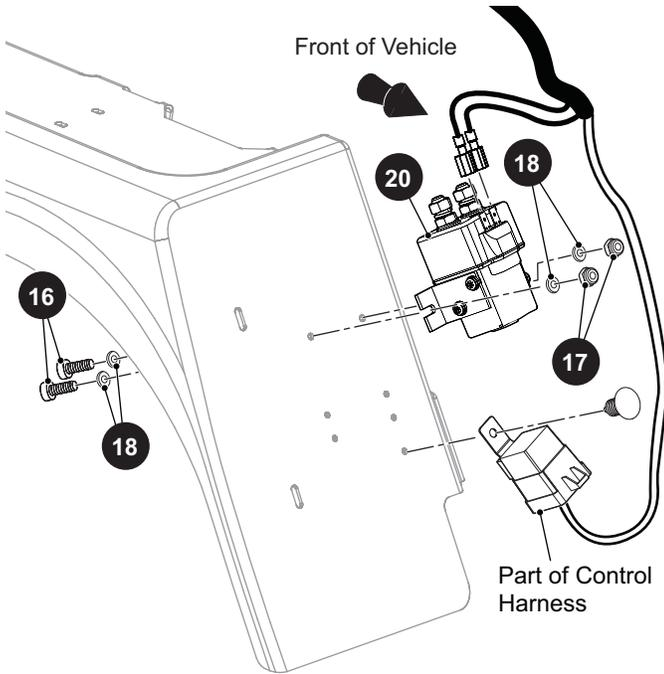

Fig. 12 Solenoid Replacement
1. Disconnect the wires from solenoid (20).
- Remove the two screws (16), washers (18) and nuts (17) to remove the solenoid (20) from the rear fender (Ref. Fig. 12).
- Mount new solenoid (20) and connect the wiring.
- Tighten the nut (17) to torque value specified below.